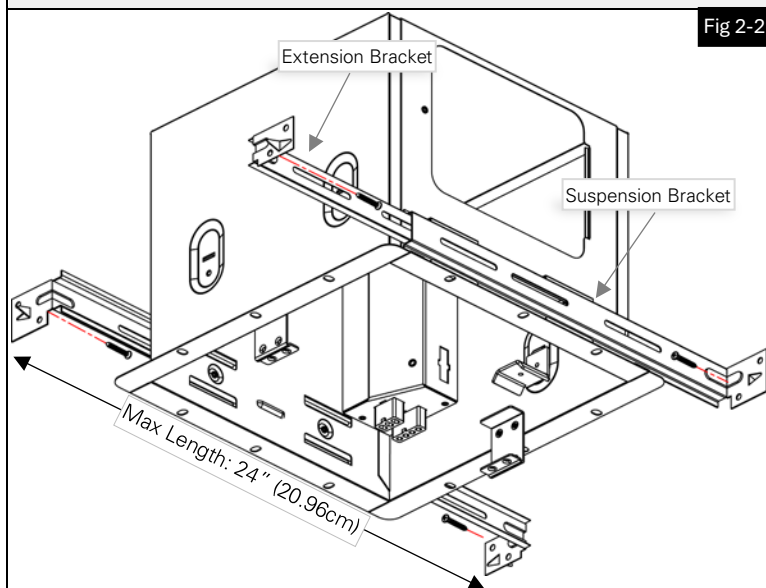

Fig 2-2
2. Slide suspension brackets (Part #6) and extension brackets (Part #7) into the channels on side of housing. Secure brackets to joists on both sides using included 30mm screws (Part #4) (**Fig 2-2**).